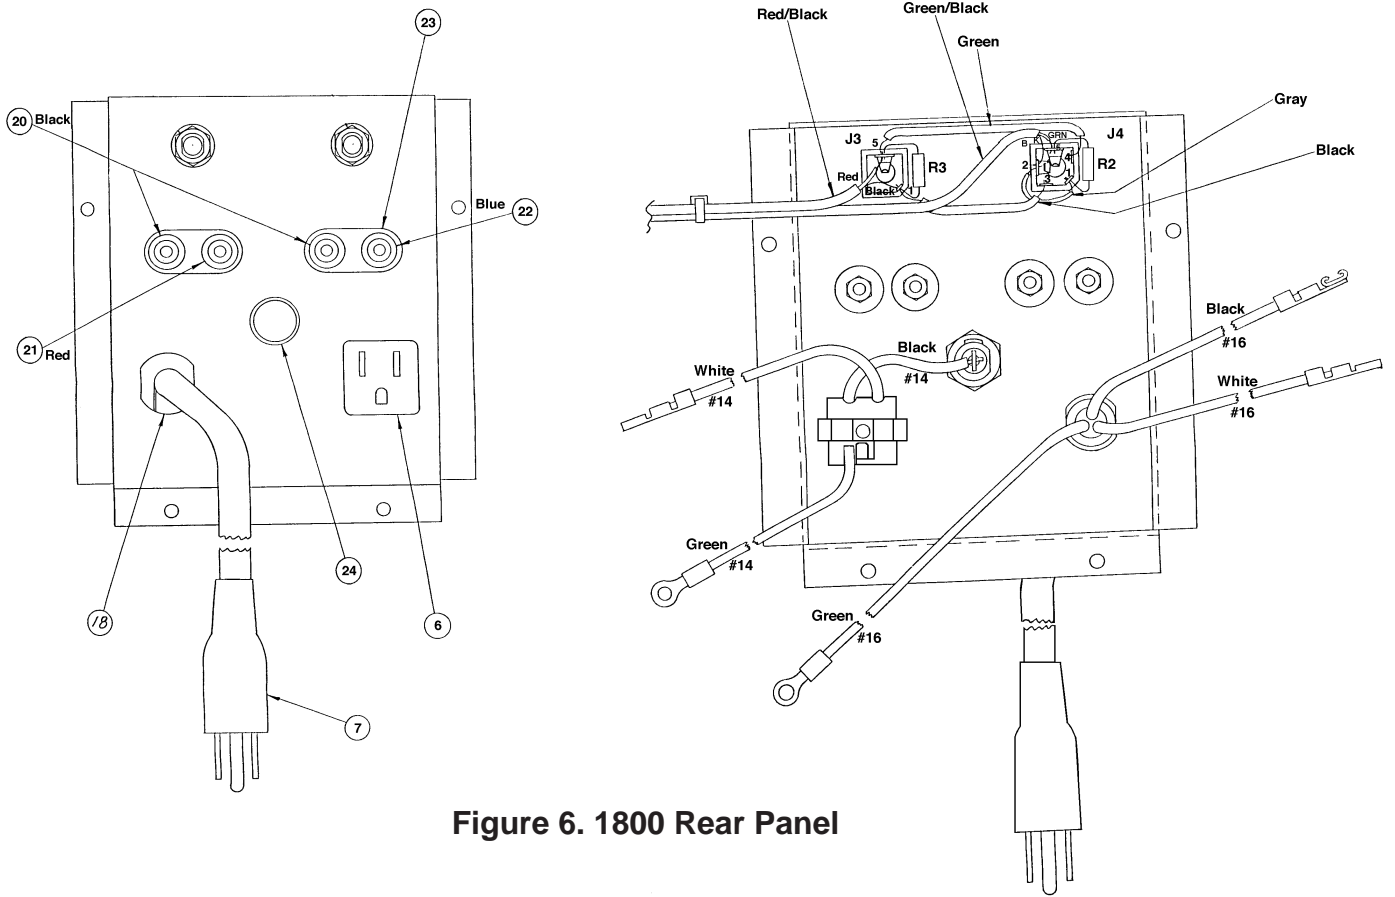

Figure 6. 1800 Rear Panel
**Note:** Refer to Figure 6 for the following procedures.